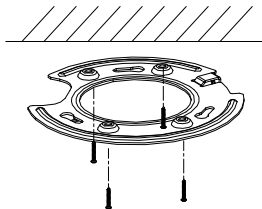

Figure 2-31 Fix the Base Plate
4. Insert four PM4*10 screws into the ceiling and fix the base plate, as shown in Figure 2-31. Make sure the FRONT arrow of the base plate is of the same direction as the arrow of the drill template.